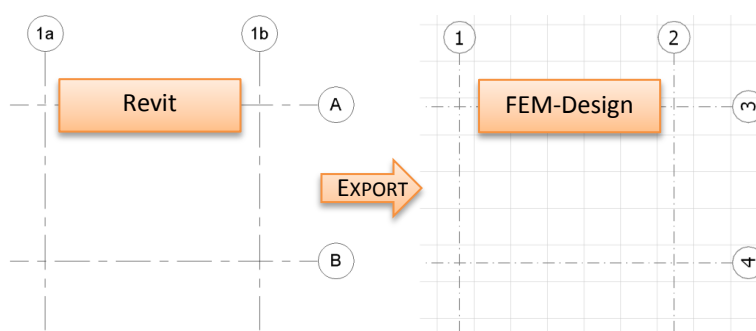

Figure 3-13
- Names of the grids are not exported. Each axis in FEM-Design will receive a new number based on the order of grid creation in Revit, as shown in Figure 3-13. If necessary, renaming can be performed in FEM-Design.